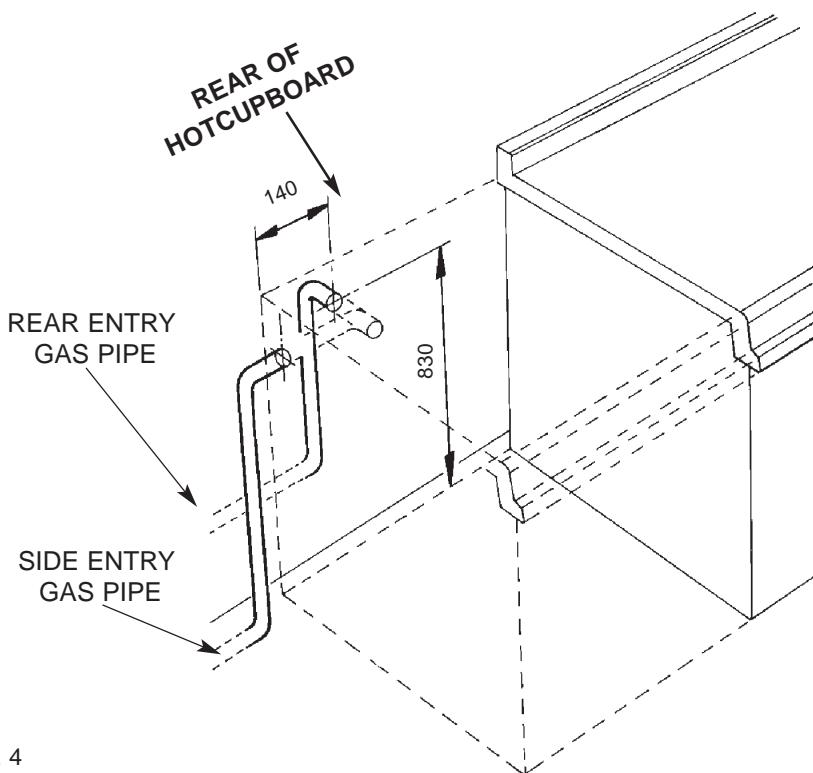

Fig. 4
b) Isolate the gas supply and connect 8mm diameter pipework up to the approximate position for final connection to the hob unit. (See Fig. 4).